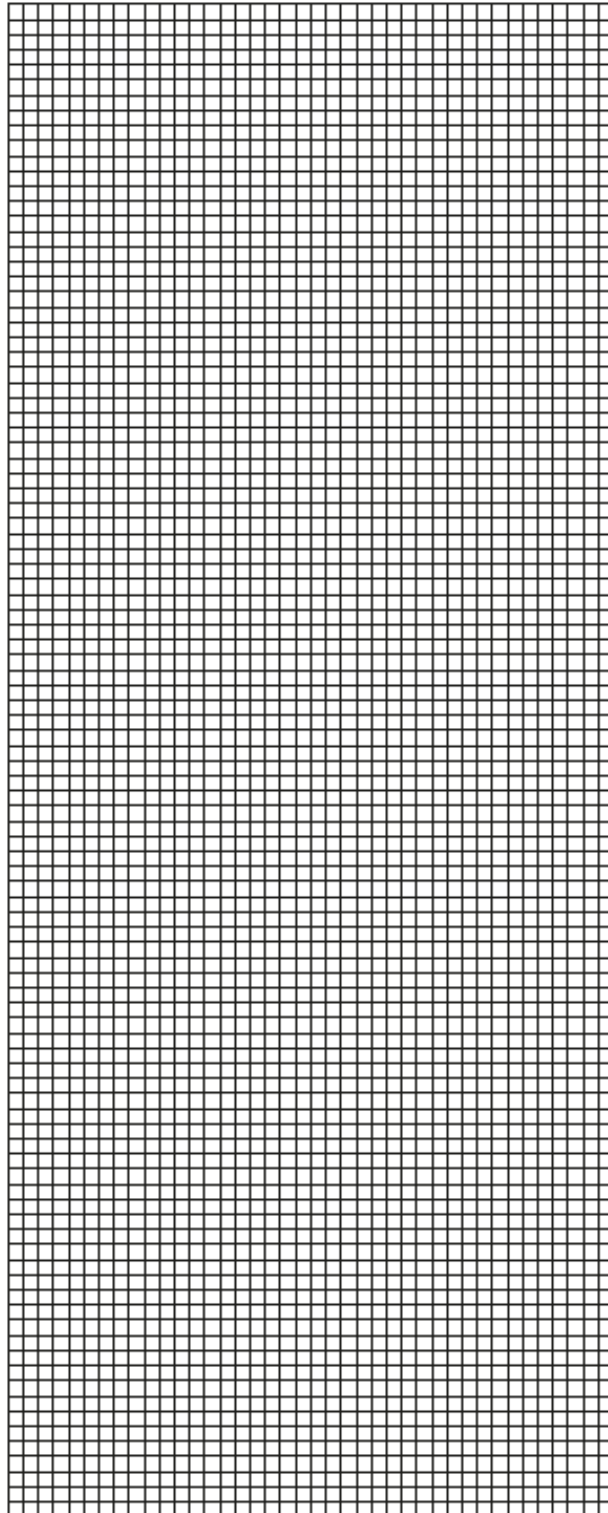

Fig. 2.1
- (iii) Plot a graph of the **mean** data in Table 2.1 on the grid in Fig. 2.1.
- (iv) Use your graph in Fig. 2.1 to estimate the concentration of sucrose solution that would result in **no** change in mass of the potato pieces.